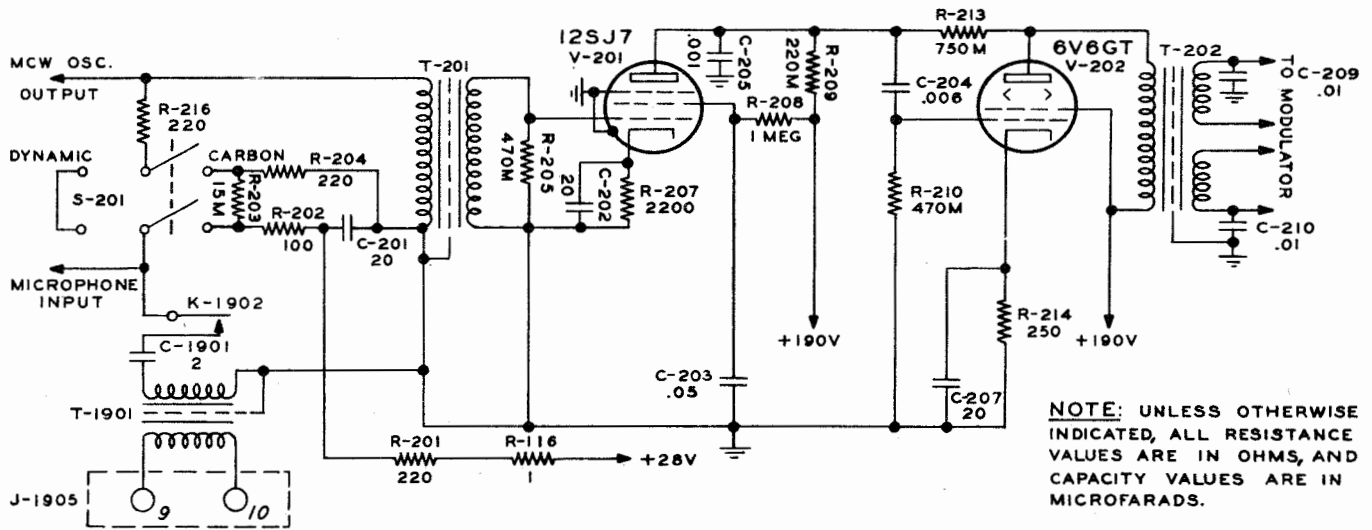

Figure 4-13 Speech Amplifier Circuits
a. **SPEECH AMPLIFIER.** - See figure 4-13. Either of two types of microphone may be used with this equipment. The input to the speech amplifier has been designed so that by operating a switch, proper connections are made to the MICROPHONE jack, J-102, (figure 4-13) to match the output of either a carbon or dynamic type of microphone. The microphone circuit selector switch, S-201, is located beneath the tuning chart on the front panel of the transmitter. If S-201 is placed in the CARBON position, limiting resistors R-201 and R-202 are connected between the positive terminal of the 28 v DC power source and the MICROPHONE jack, J-102, to provide the voltage necessary for the operation of the carbon type of microphone. The operation of S-201 also connects resistor R-203 between J-102 and the input circuit of the speech amplifier to reduce the level of the output of the carbon microphone to the level of the output of a dynamic microphone. Thus, no audio gain control has been provided because the level of the input to the speech amplifier is the same when using a dynamic microphone as it is when using a carbon microphone. If S-201 is placed in the DYNAMIC position the voltage is removed from the input circuit and the MICROPHONE jack, J-102, is connected in series with resistor R-216 and the primary of the input transformer, T-201. The two stage speech amplifier employs a Type 12SJ7 tube, V-201, as first amplifier, and a Type 6V6GT tube, V-202, as second amplifier. The output of the microphone is coupled by the input transformer, T-201, to the grid of V-201. The output of V-201 is coupled to the grid of V-202 by the capacitor C-204. The output of the audio driver tube, V-202, is coupled to the grids of the modulator tubes V-105 and V-106 by transformer T-202.